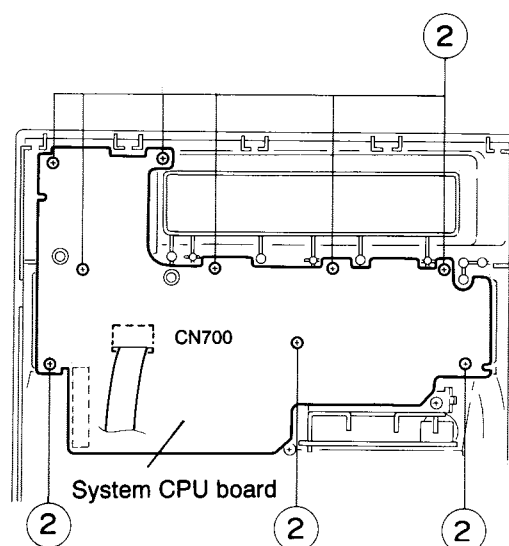

Fig. 5-22
7. Remove the nine screws ② fastening the system CPU board. (See Fig. 5-22)
8. Disconnect the card wires protruding from connector CN305 on the head amplifier & mechanism control board from connector CN700 on the system CPU board. (See Figs. 5-22, 5-23)